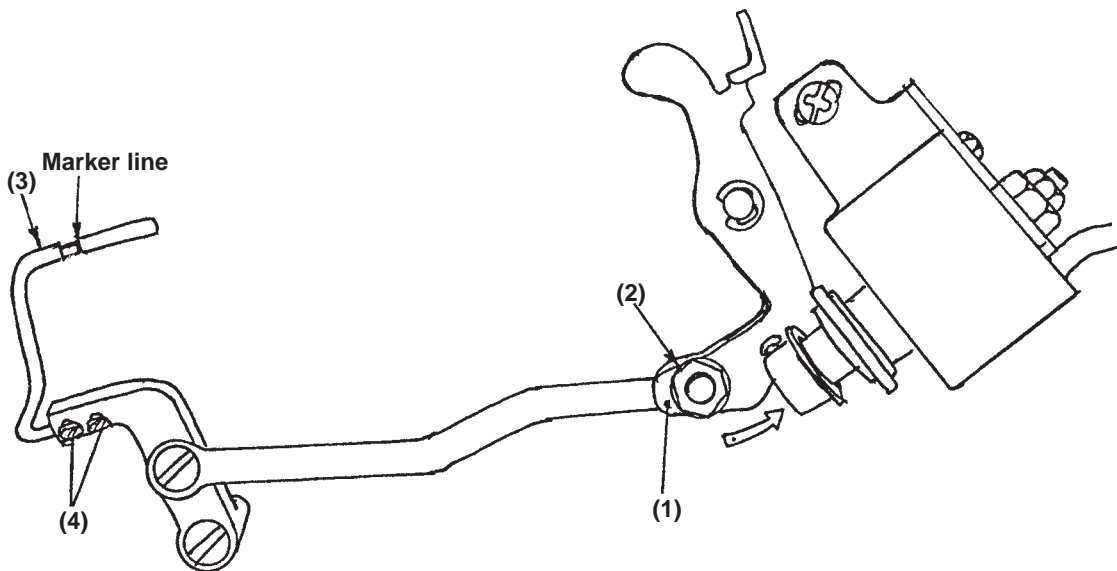
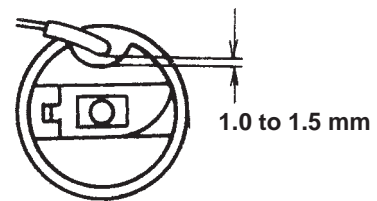

Fig. 27
Fig. 28
If thread take-up picker (Fig. 27 (3)) excessively enters in the direction of bobbin case when trimming thread, bobbin does not rotate and bobbin thread is trimmed shorter than the standard. As a result, slip-off of thread occurs at the start of sewing.
Adjust the thread take-up picker so that bobbin thread is lightly pulled out in the state that clutch plate (Fig. 27 (1)) is pressed in the direction of the arrow mark (right side). At this time, as shown in Fig. 28, adjust so that a clearance of 1.0 to 1.5 mm is provided between the top end of thread take-up picker (bobbin presser) and the notch in the upper section of bobbin. In addition, after the clutch plate has been pressed to the right, lightly press thread take-up picker (3) and adjust so that the rear end of bobbin presser is aligned with the marker line on the thread take-up picker in the state that the play is removed.
Loosen screws (Fig. 27 (4)) and adjust so that the top end (bobbin presser) of thread take-up picker is located as shown in Fig. 28.
To adjust the depth of thread take-up picker, move the position of picker link pin (Fig. 27 (2)). After performing adjustment, tighten the lock nut of picker link pin.